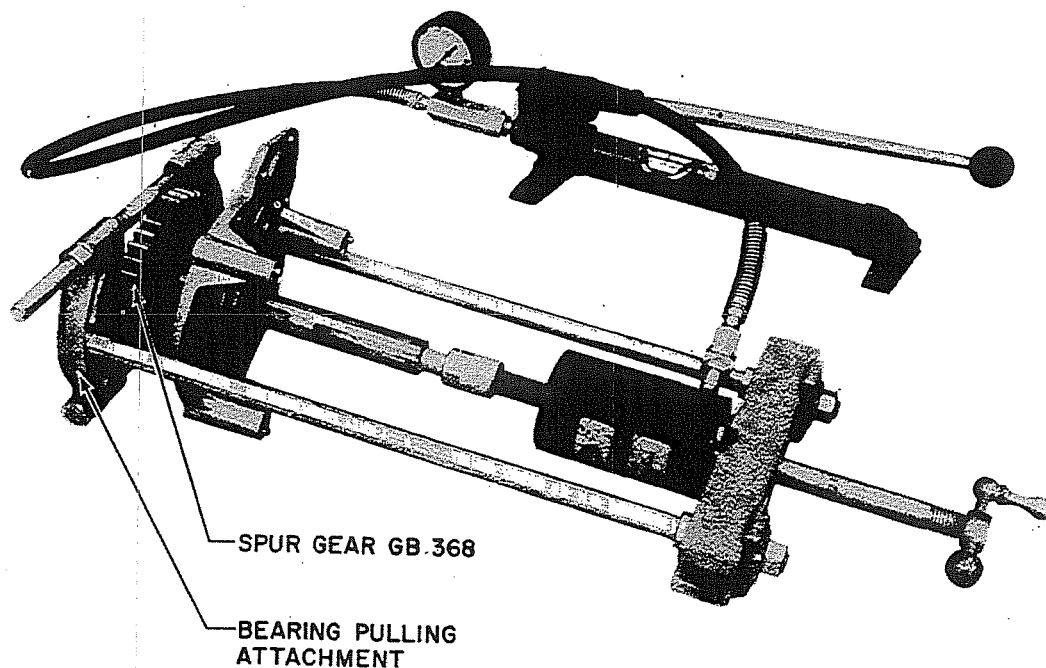

Figure 32. 1 to 1 Shaft, Installation of Spur Gear GB368
- Q. Secure the bearing pulling attachment or triple grip puller behind Spur Gear GB368 and apply pressure to Shaft GB381 (figure 32).